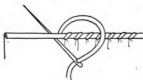

FIGURE 13
*Whipping Stitch or Overhand* (Figure 13). — This is an over and over close stitch used on selvages (sěl'věj — the edge of a woven fabric so formed as to prevent raveling) and folds. It is also used in joining laces and for rolled edges. Hold the material in the left hand and conceal the knot under the hem.
Make the eyelet hole with a stiletto, using a twisting motion as it is pushed through the material, and sew a tiny circle of running stitches close around the hole (AI). Work the eyelet hole with the buttonhole (BI) or overhand stitch (AI) (see Figure 13), using the circle of running stitches as a gage for the depth of the eyelet stitches. The hole for an oval eyelet is made by cutting a gash the desired length and proceeding as for the round eyelet. Large eyelets are used purely for ornamentation. If they are very large the surplus material in the center is cut out.